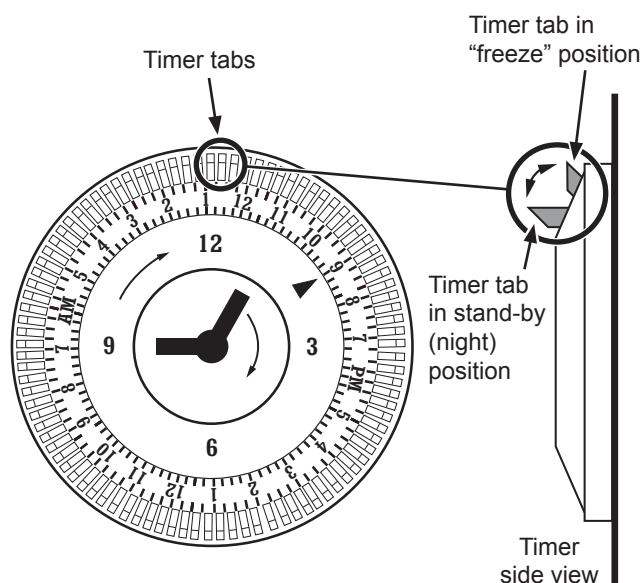

Figure 2
- 1 With the main power switch off, flip the timer tabs next to the time marks on the timer to either the standby or freeze position (**Figure 2**). The unit will operate in the mode selected during the corresponding time period.
- 2 Check to make sure the clock is set to the current time, then turn ON (I) the main power switch.